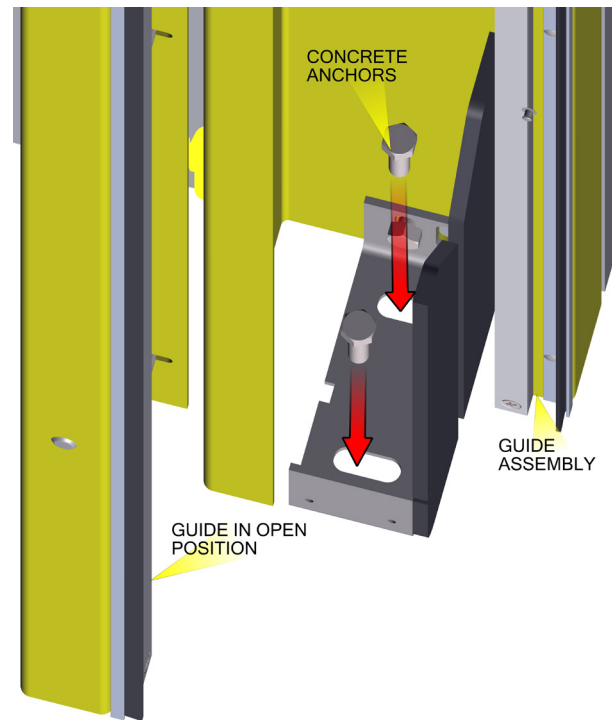

Figure 5
- Install the concrete anchors through the floor bracket, securing the guides to the floor. See **Figure 5**.